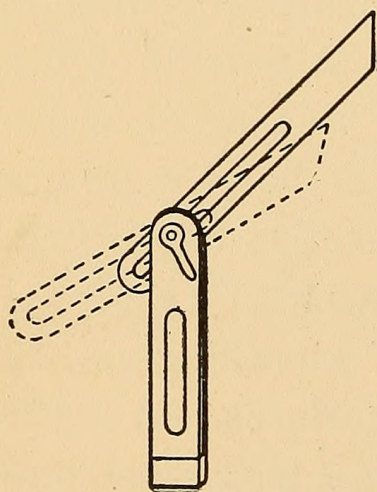

FIG. 34. — Bevel.
**A Bevel** (Fig. 34) is a handy tool for laying out angles other than 45 degrees, for laying out bevels, and for reproducing angles upon several pieces of work. It is like a try-square, only instead of being fastened rigid it is made adjustable. You can easily do without this tool for ordinary work, but it will be useful when you get into advanced work.